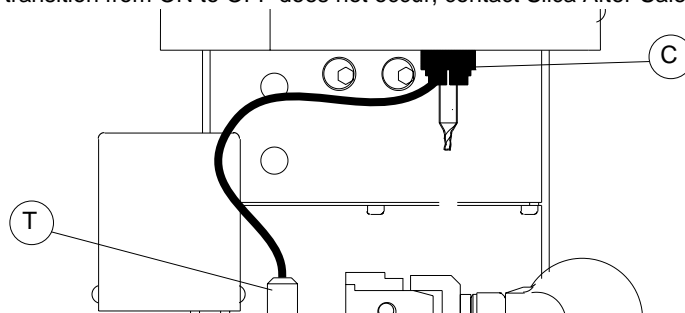

Fig. 23
With the jumper cable (see "Accessories provided", page 11) make electrical contact between the spindle chuck (C) and the adjusting plate (T) (fig. 23). The display will show: